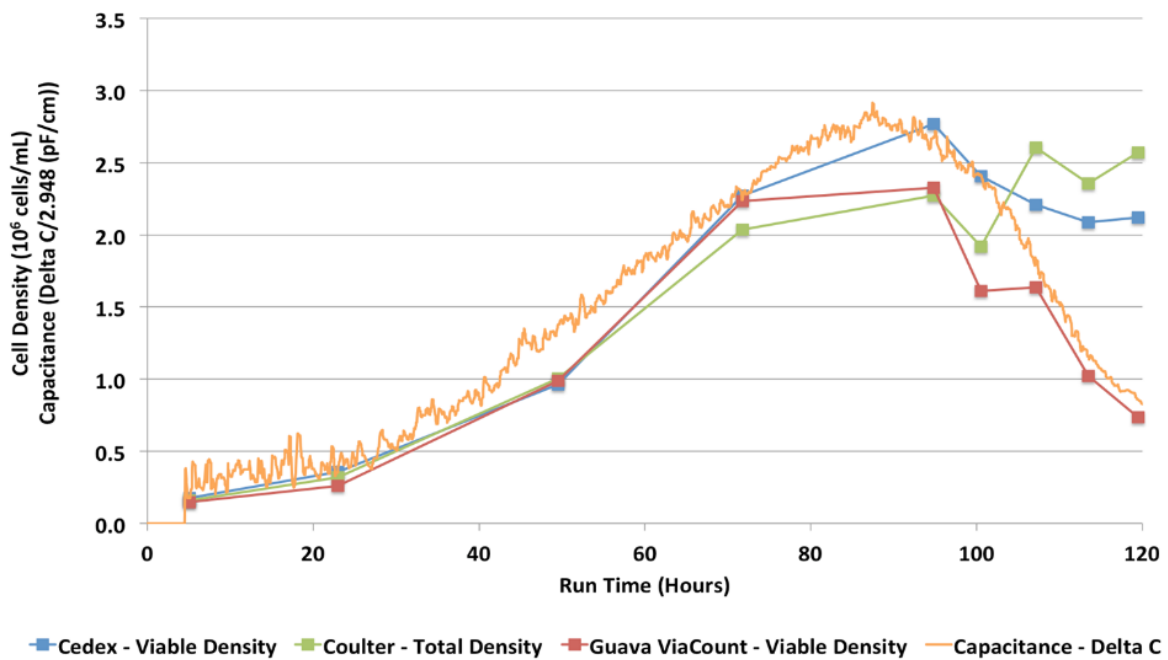

Figure 3: Comparison of off-line, at-line and in-line methods of measuring VCC, (published with kind permission from the University of Manitoba)
For example, a study at the University of Manitoba (8) compared off-line and at-line particle detection, dye exclusion and fluorescent flow cytometry with in-line capacitance to monitor the VCC of Chinese hamster ovary (CHO) cells grown in a batch culture. The study showed that these techniques produced similar results during the exponential growth phase (80-hours in culture), but the dye exclusion and particle detection methods produced higher estimates of VCC after 80 hours to 120 hours (Figure 3). The fluorescent flow cytometry gave comparable results to capacitance and additional assays confirmed that these two methods are detecting apoptotic cells which become non-viable earlier than the other methods. This study shows that the different methods of measuring VCC are monitoring different points of cell death.